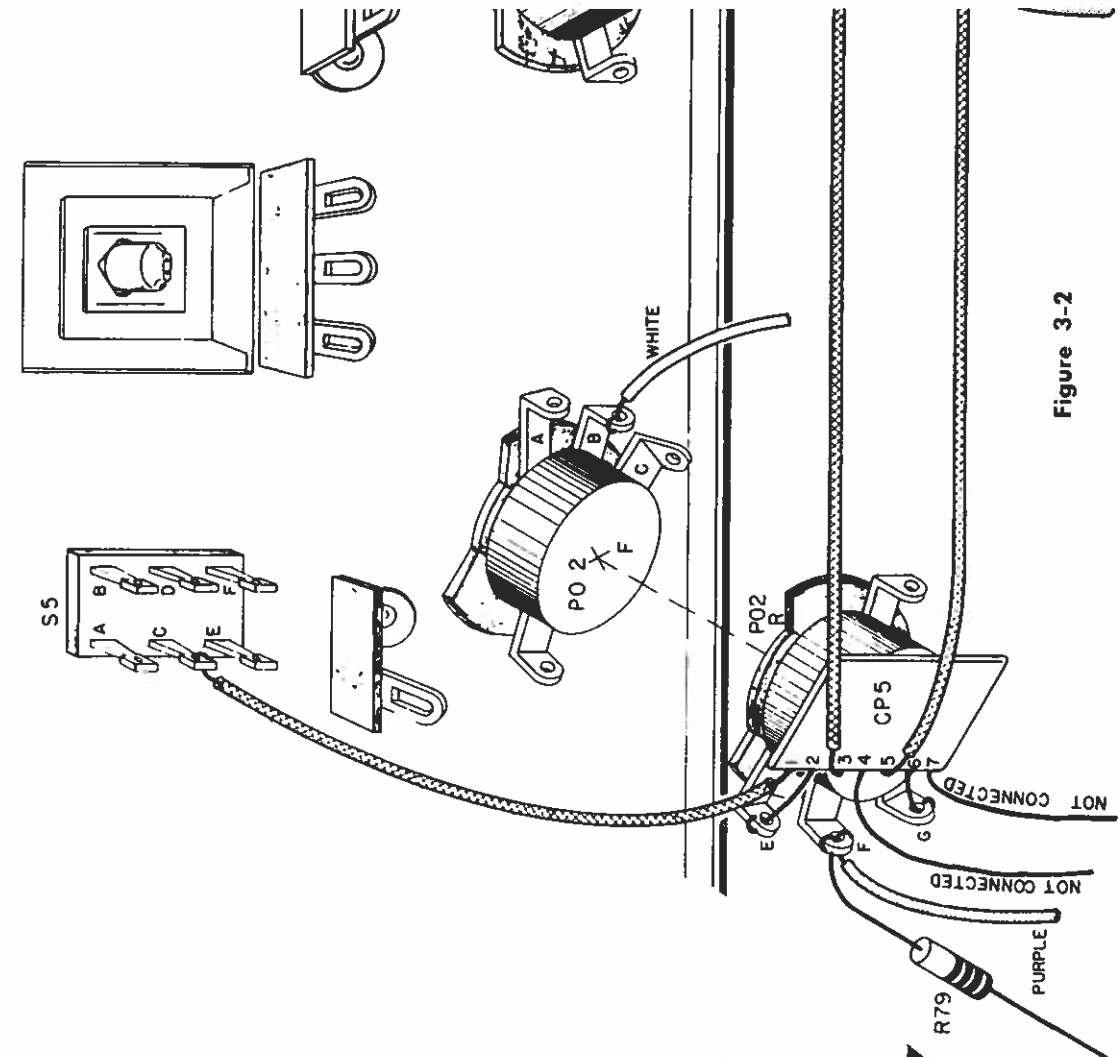

Figure 3-1
**Step 3B**  Place CP6 about half-way between controls P02 and P01 as shown in Fig. 3-1. Remember to slip a piece of insulating spaghetti over each lead before you solder it in place. The first line of each step will tell you the required length of spaghetti.